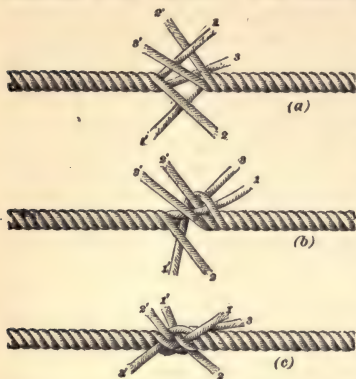

FIG. 1.
22. Splicing a Sling.—To make a short splice in a sling, untwist the strands for some distance from each end of the rope. Take an end in each hand and lay the strands within one another, as shown in Fig. 1 (*a*). The strands 1', 2', and 3' may be tied to the left-hand end for convenience in handling. Now take the strand 1, pass it over strand 2' and under strand 1', as shown in Fig. 1 (*b*); then, draw it
The splice will now appear as shown in Fig. 1 (c). Weave the strands 1', 2', and 3' into the left-hand rope in the same manner. Continue weaving the right-hand and left-hand strands alternately until the length of the splice is about 6 times the diameter of the rope. Draw the strands tight and sub-